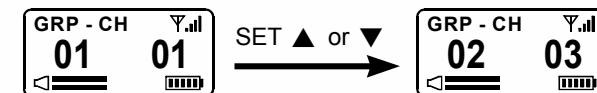

Fig. 10
4. GROUP / CHANNEL Mode, Fig 10:
- (A) When SET ▲ or SET ▼ button is pressed, the current parameter blinks to denote it is ready to accept change.
- (B) Press and release SET ▲ or SET ▼ button to change setting of GRP or CH. 5 seconds later or MODE button is pressed, blinking stops and the setting is automatically saved.